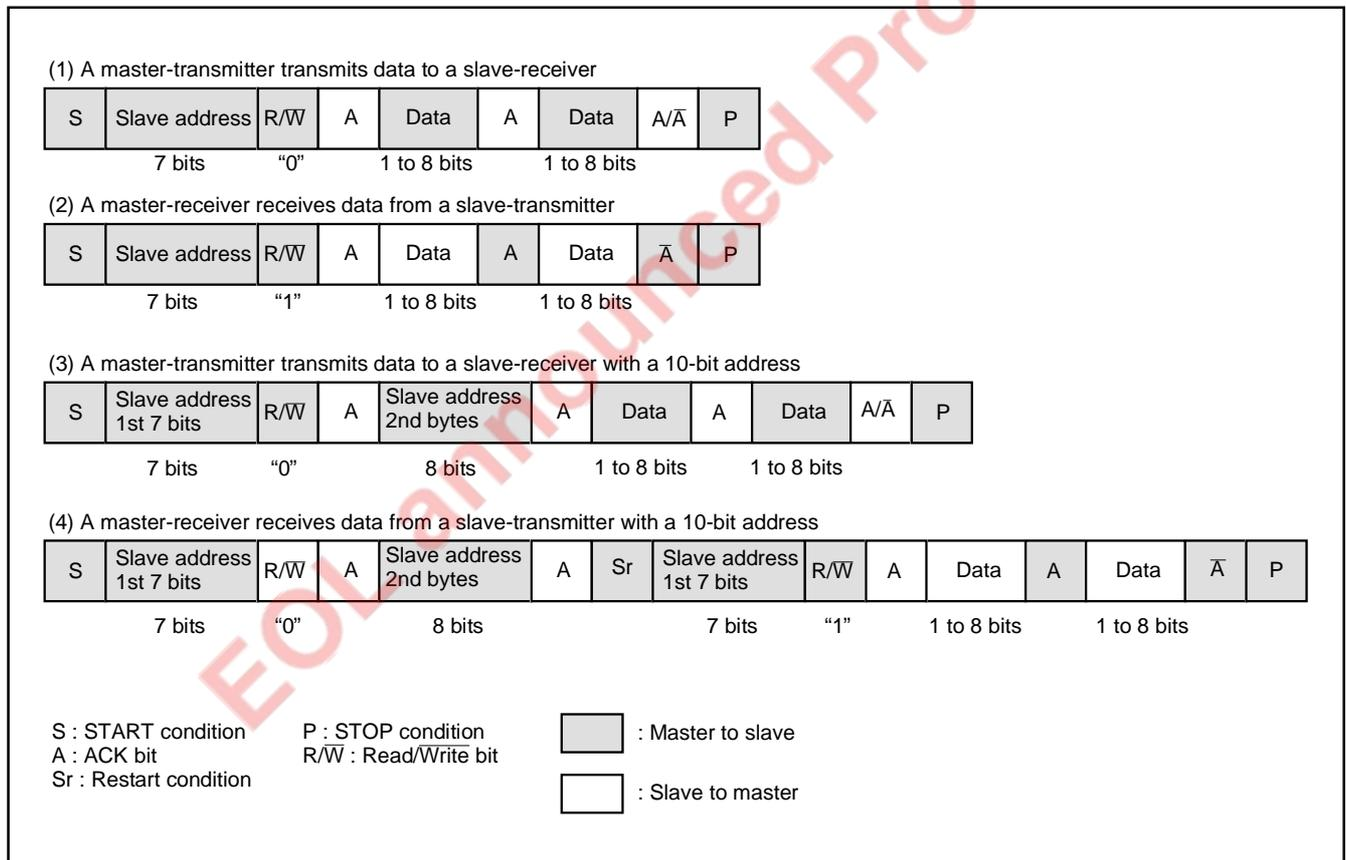

Fig. 69 Address data communication format
① 7-bit addressing format
To adapt the 7-bit addressing format, set the 10BIT SAD bit of the I²C control register (S1D: address 0014₁₆) to 0". The first 7-bit address data transmitted from the master is compared with the high-order 7-bit slave address stored in the I²C slave address register. At the time of this comparison, address comparison of the RWB bit of the I²C slave address register is not performed. For the data transmission format when the 7-bit addressing format is selected, refer to Figure 69, (1) and (2).
② 10-bit addressing format
To adapt the 10-bit addressing format, set the 10BIT SAD bit of the I²C control register (S1D: address 0014₁₆) to 1. An address comparison is performed between the first-byte address data transmitted from the master and the 8-bit slave address stored in the I²C slave address register. At the time of this comparison, an address comparison between the RWB bit of the I²C slave address register and the R \bar{W} bit which is the last bit of the address data transmitted from the master is made. In the 10-bit addressing mode, the RWB bit which is the last bit of the address data not only specifies the direction of communication for control data, but also is processed as an address data bit. When the first-byte address data agree with the slave address, the AAS bit of the I²C status register (S1: address 0013₁₆) is set to 1. After the second-byte address data is stored into the I²C data shift register (S0: address 0011₁₆), perform an address comparison between the second-byte data and the slave address by software. When the address data of the 2 bytes agree with the slave address, set the RWB bit of the I²C slave address register to 1" by software. This processing can make the 7-bit slave address and R \bar{W} data agree, which are received after a RESTART condition is detected, with the value of the I²C slave address register. For the data transmission format when the 10-bit addressing format is selected, refer to Figure 69, (3) and (4).